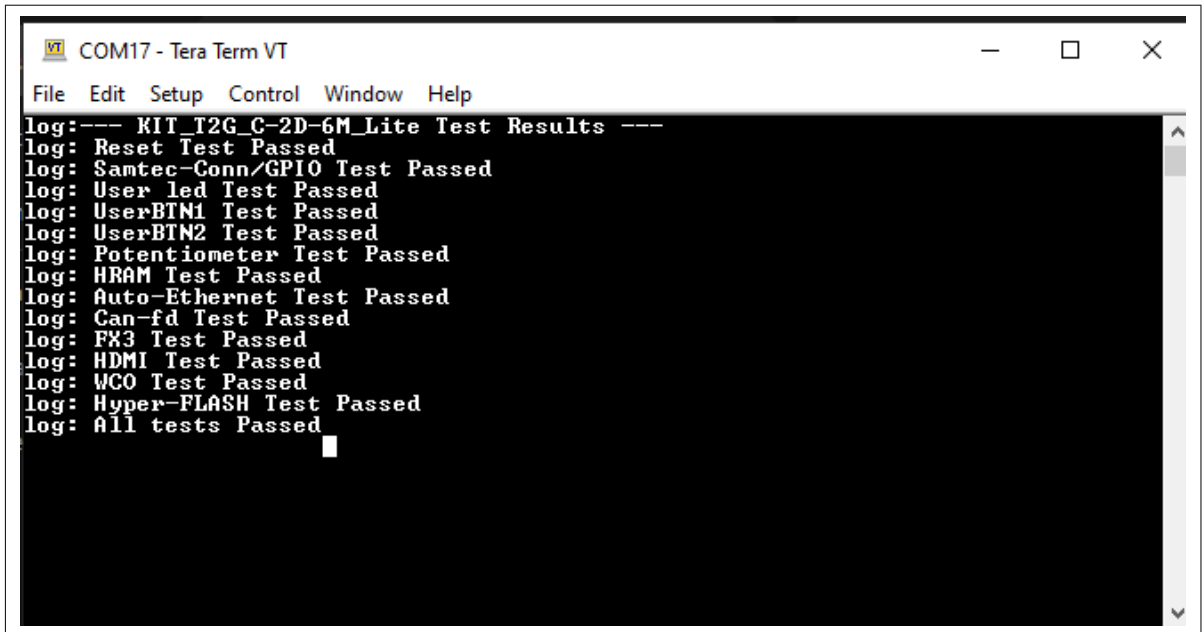

Figure 8 Test log printed on the serial terminal window
5. Press the reset button **S200** on the kit. The message logs (test results of peripherals) will be printed in the terminal, as shown in Figure 8